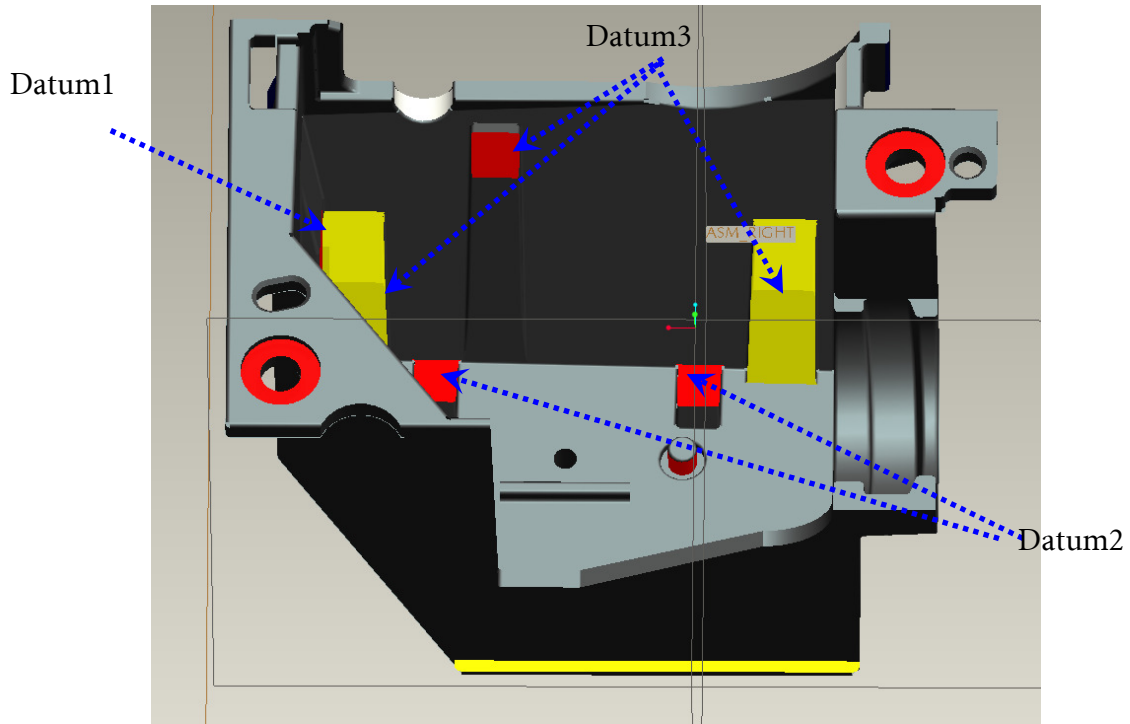

Fig. 3-3
- Assemble Mylar SUB HSG to HSG ILL well (Fig. 3-3).
- Assemble CM to HSG ILL and to make CM contact three datum on the HSG ILL well (Fig. 3-3).